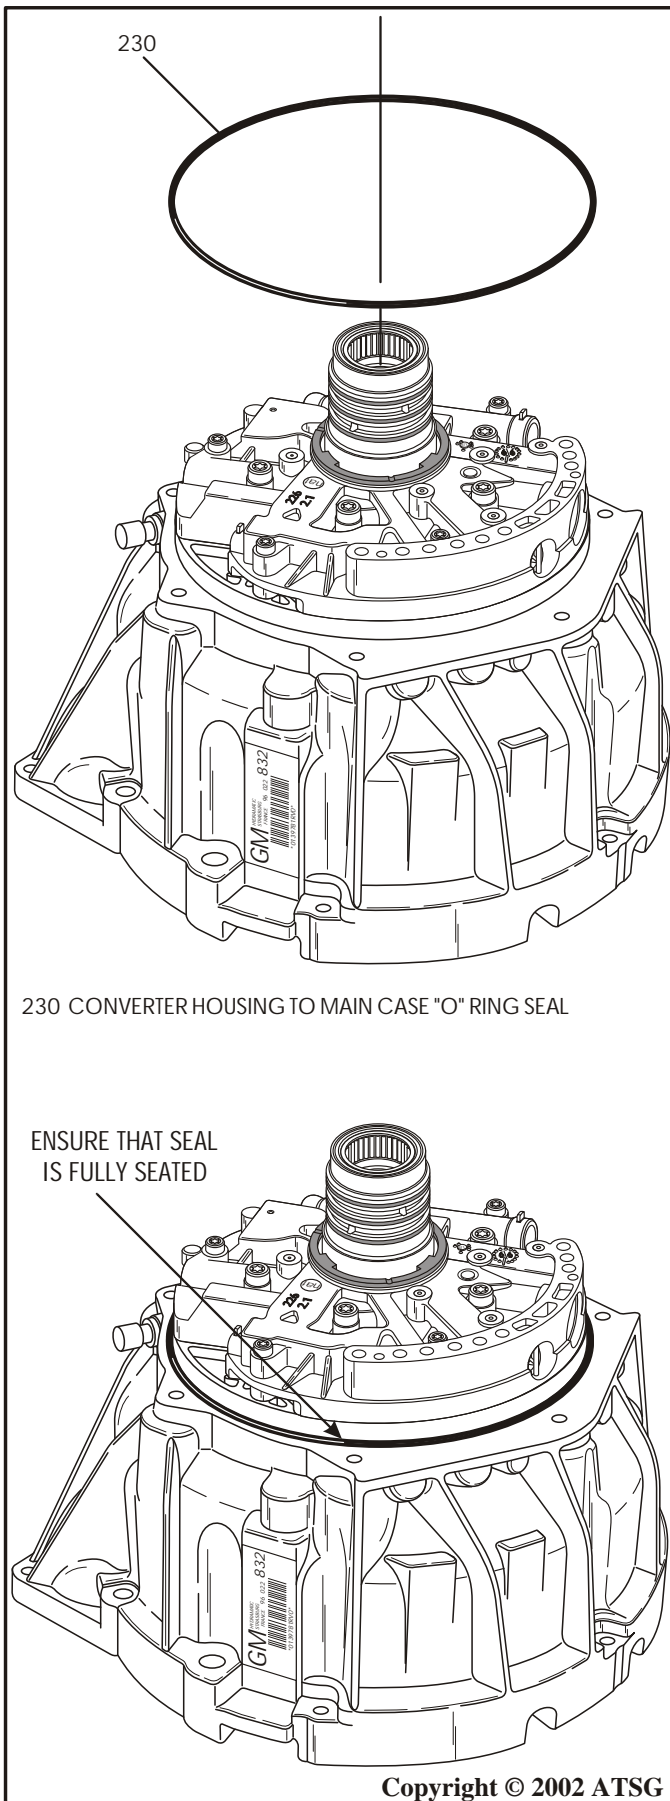

Figure 70
35. Install converter housing to case "O" ring seal, as shown in Figure 70, and ensure that it is fully seated.